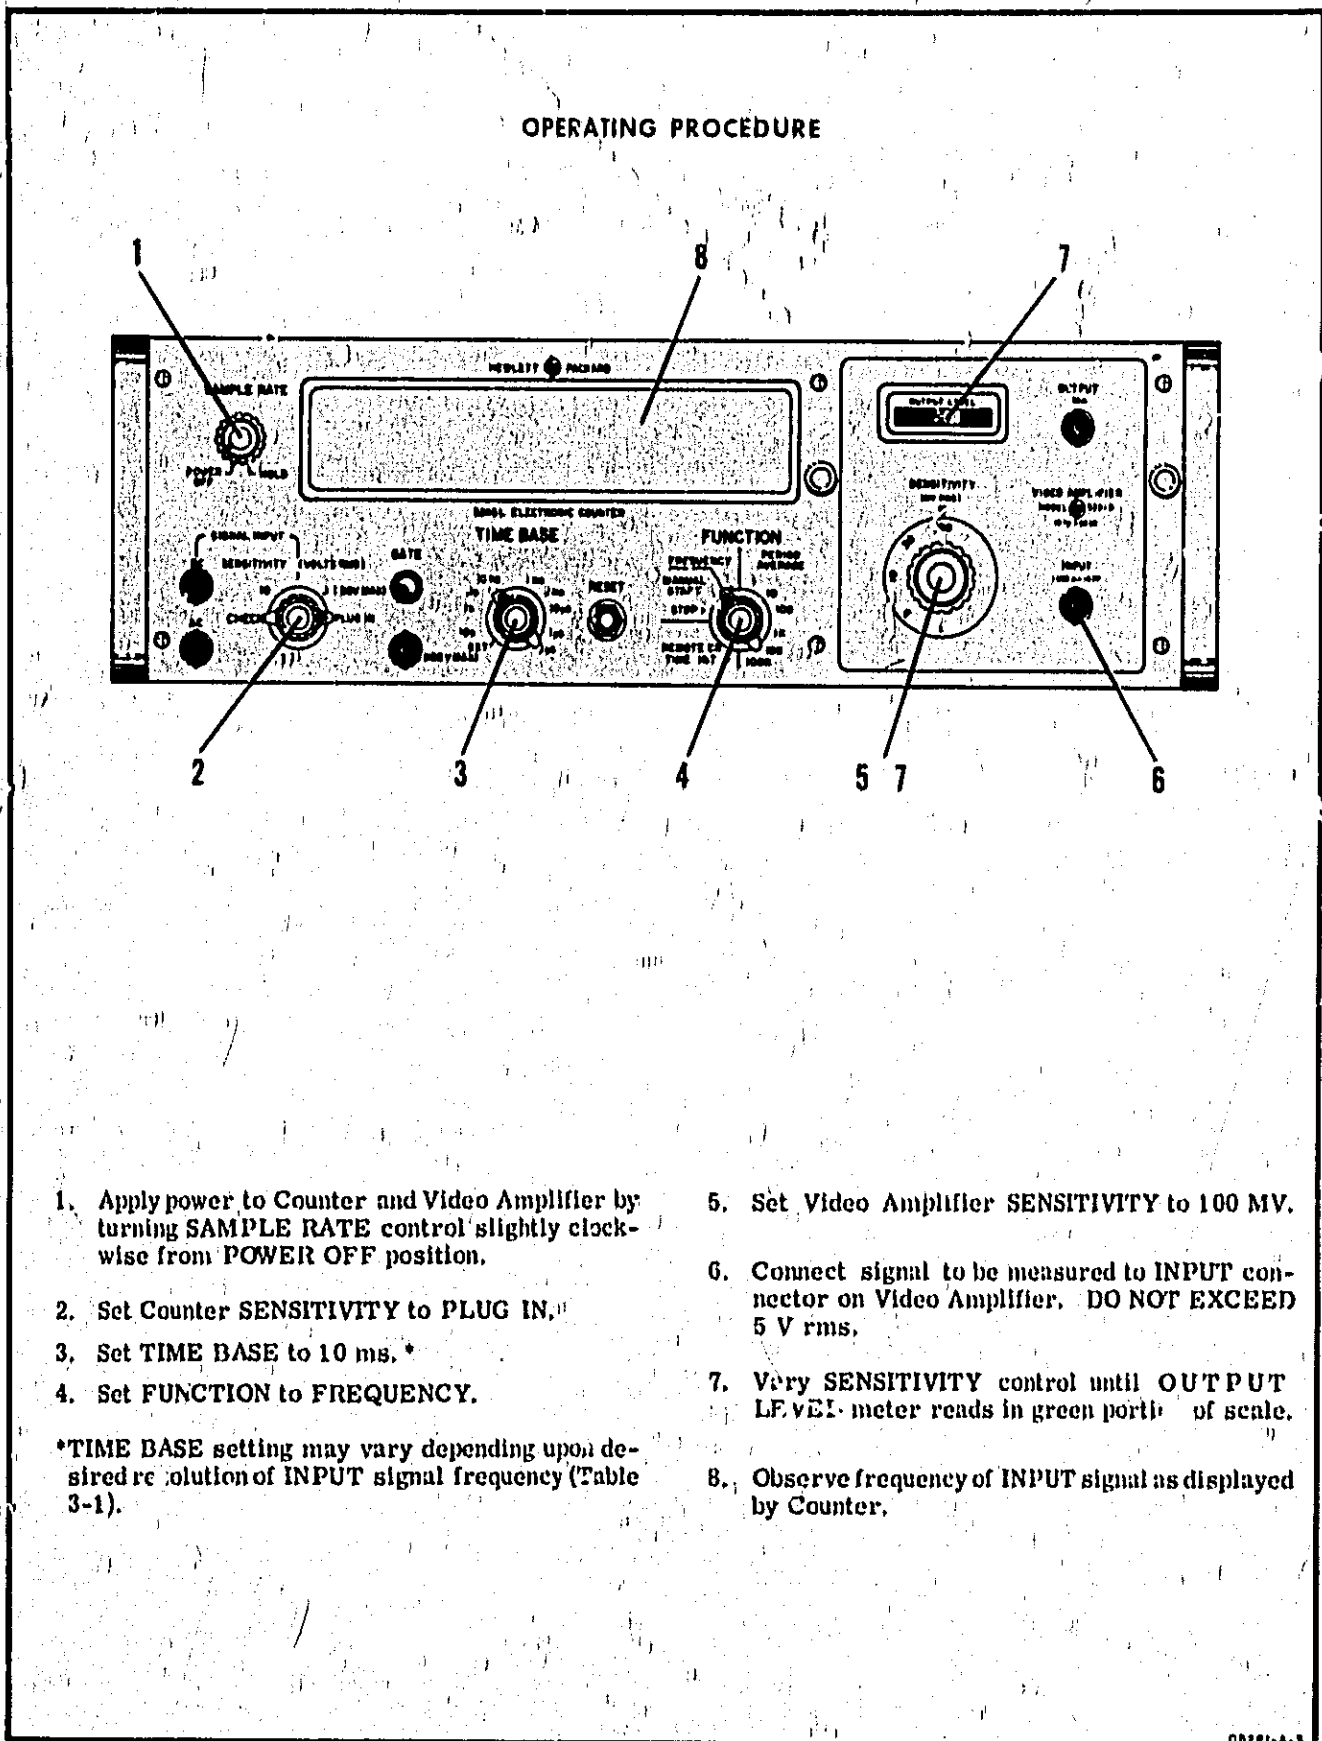

Figure 3-3. Frequency Measurement with Model 5201A
3-4. The Video Amplifier plug-in unit is ac-coupled but does not change any functions of the counter in which it is installed. Using the plug-in, period, multi-period, frequency, totalizing, and ratio measurements can be performed with input signals as low as one millivolt. Since the measurements can be made with or without the Video Amplifier installed, only frequency measurement is illustrated in Figure 3-3. For other measurement procedures, see the Operating and Service Manual for your Electronic Counter. Table 3-1 lists the frequency resolution for all settings of the counter TIME BASE control (Figure 3-3, item 3).